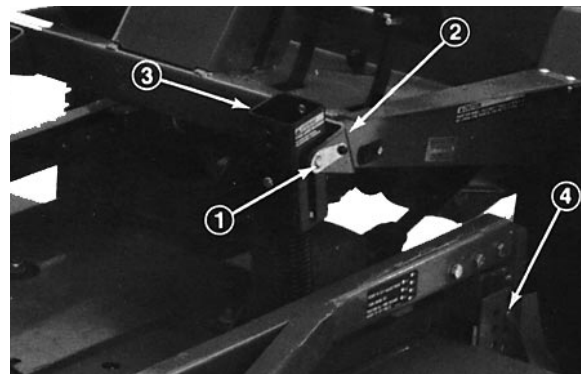

Figure 6
2. Disconnect the counterbalance from the traction unit, remove the lockpins from the brackets, separate the spring tension assemblies from the brackets and lay them down on the deck. Loosely secure the lockpins to the brackets to prevent losing them (Fig. 6).
3. Lower the cutting unit, remove (4) pins from the height-of-cut brackets (Fig. 6).